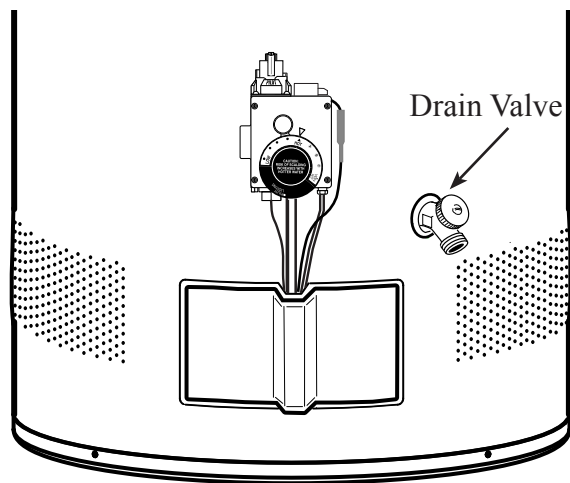

Figure 2
2. **DRAINING THE WATER HEATER:** Shut off the inlet water supply to the water heater. Connect one end of a garden hose to the water heater's drain valve and route the other hose end to a drain or suitable draining area. Open a hot water faucet to allow air to flow into the water heater tank then open the water heater's drain valve. See Figure 2.